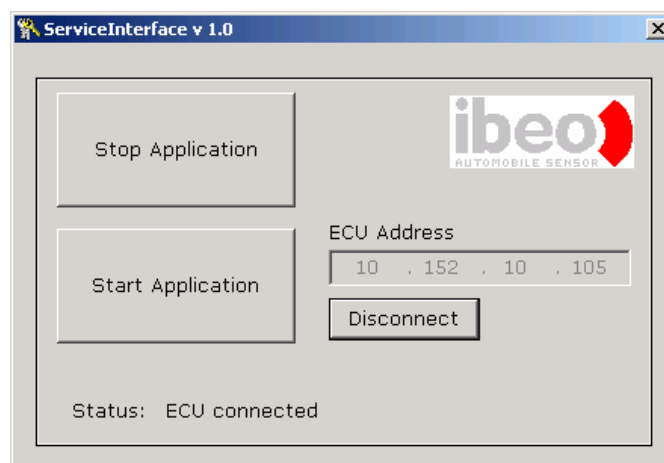

Fig. 25: Service Interface
3. Start the program *ServiceInterface.exe* (Fig. 25) from the Ibeo application CD-ROM, directory \Tools\ServiceInterface. Insert the IP address of the ECU (see label on the ECU) and click on the button *Stop Application* to close the *AppBase*. This operation does not stop the laserscanner.